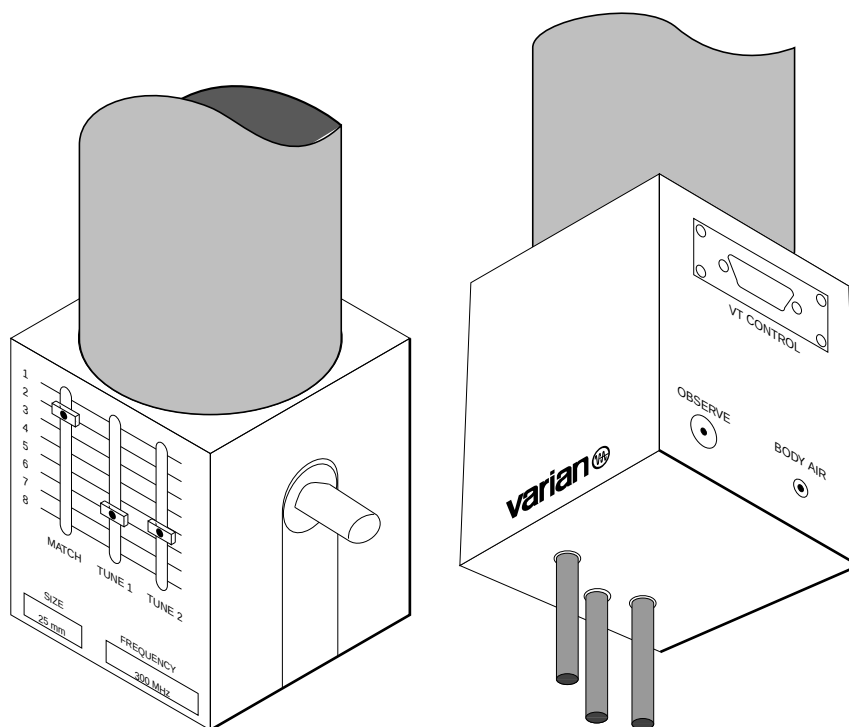

Figure 51. Microimaging Probe Tuning Controls and Connectors
2. Connect the rf input to the OBSERVE connector on the probe (see Figure 51).
The microimaging probe has an indicator base as shown in Figure 51. This probe has three tuning rods extending from the bottom of the probe, two of these are “tune” rods, the other is a “match” rod. All three rods are tuned alternately until the reflected power on the leg meter arrives at a minimum when the probe is connected in the TUNE mode.